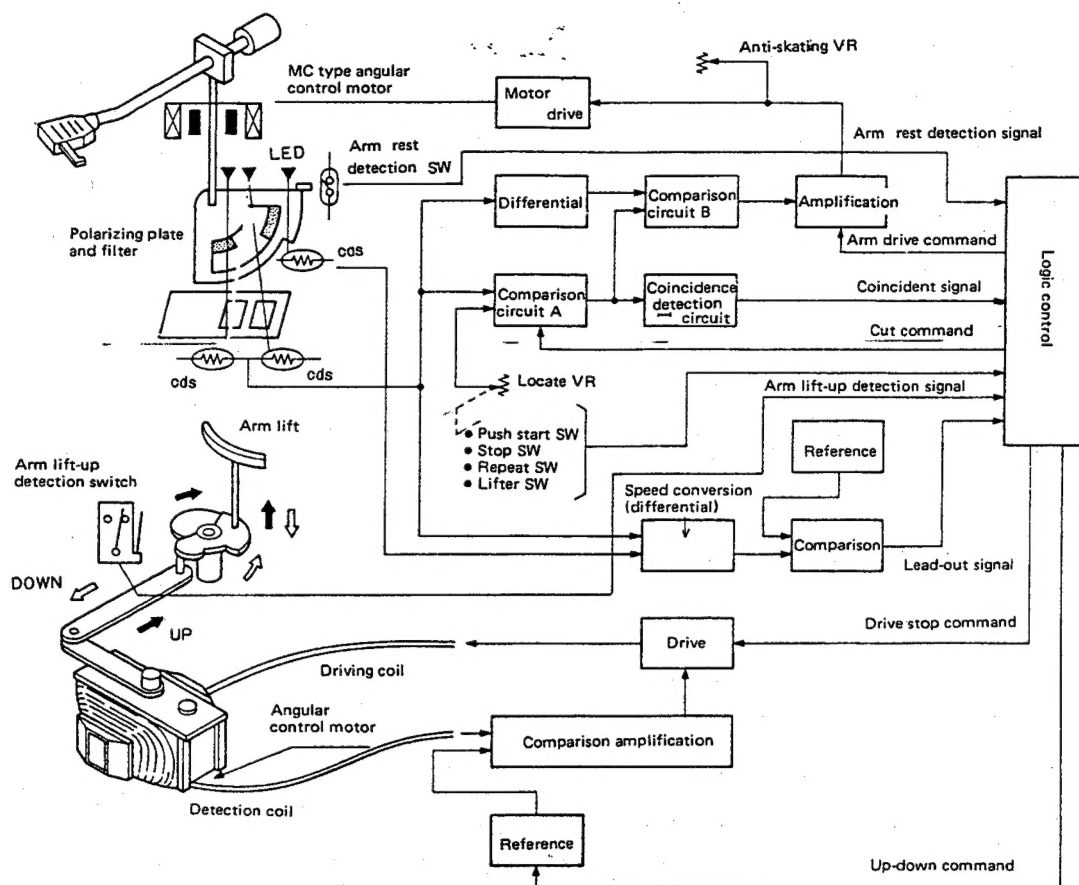

Fig. 2 Tonearm Drive Block Diagram
3. Adjustment for Shutter Fitting Angle (refer to Fig. 2)